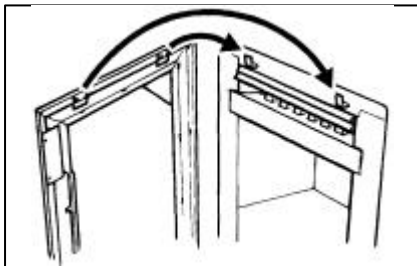

Fig. 26 Front surround top location
10.2 Carefully lift the front surround. **Do not lift it by the control button.** Place the front surround against the fireplace front surface so that the two retaining plates at the back of the surround are directly above the two upper retaining brackets at the top of the convection box. Lower the surround unit making sure that the retaining plates locate fully over the brackets on the convection box (See figure 26).